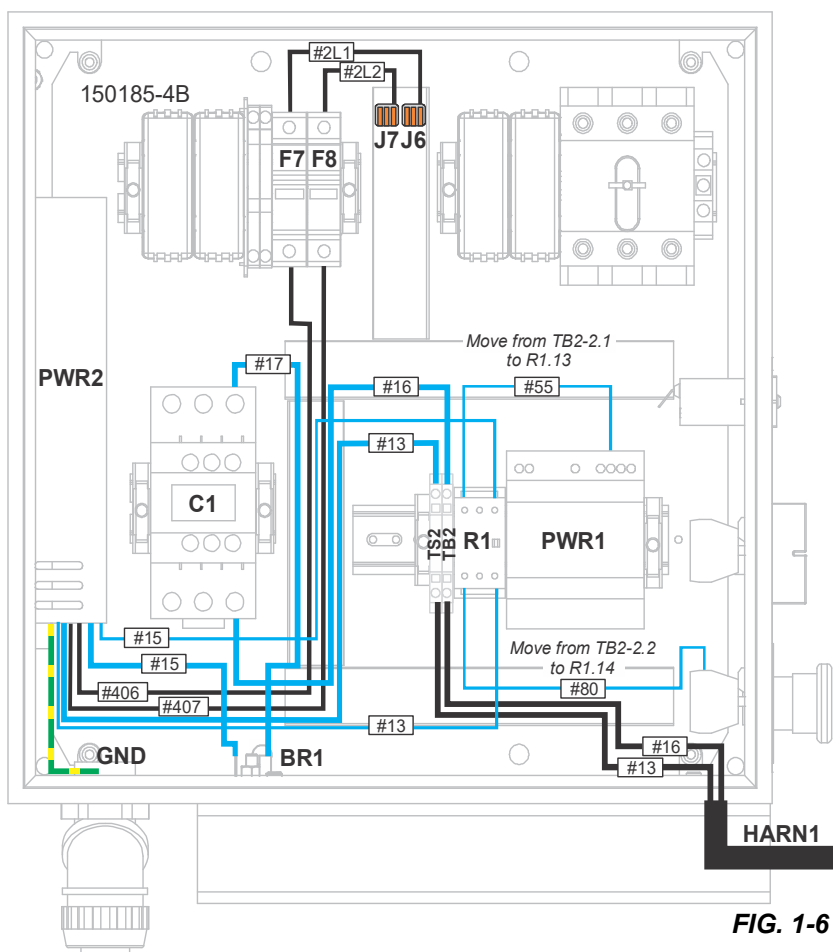

FIG. 1-6
8. Remove the cable duct covers to access the control wiring. See Fig. 1-6.
16. Route both black wires from the power feed control harness HARN1 through the cable ducts to the bottom of the terminal blocks next to the newly-installed relay. Connect wire #13 to the new terminal block TS2.1. Connect wire #16 to the bottom of the existing terminal block TB2.2. See Fig. 1-6.